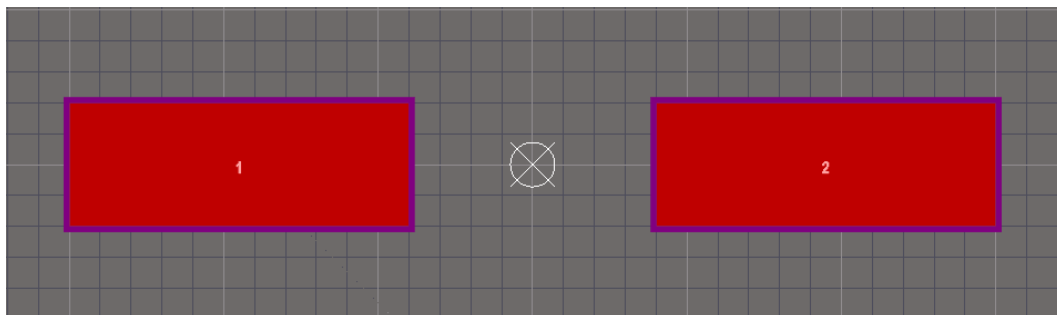

Figure 29. Component Origin set to Center
43. Assign the origin to the center of the existing pads by going to **Edit » Set Reference » Center**. The resulting circle and diagonal lines indicates the component origin as shown in Figure 29.